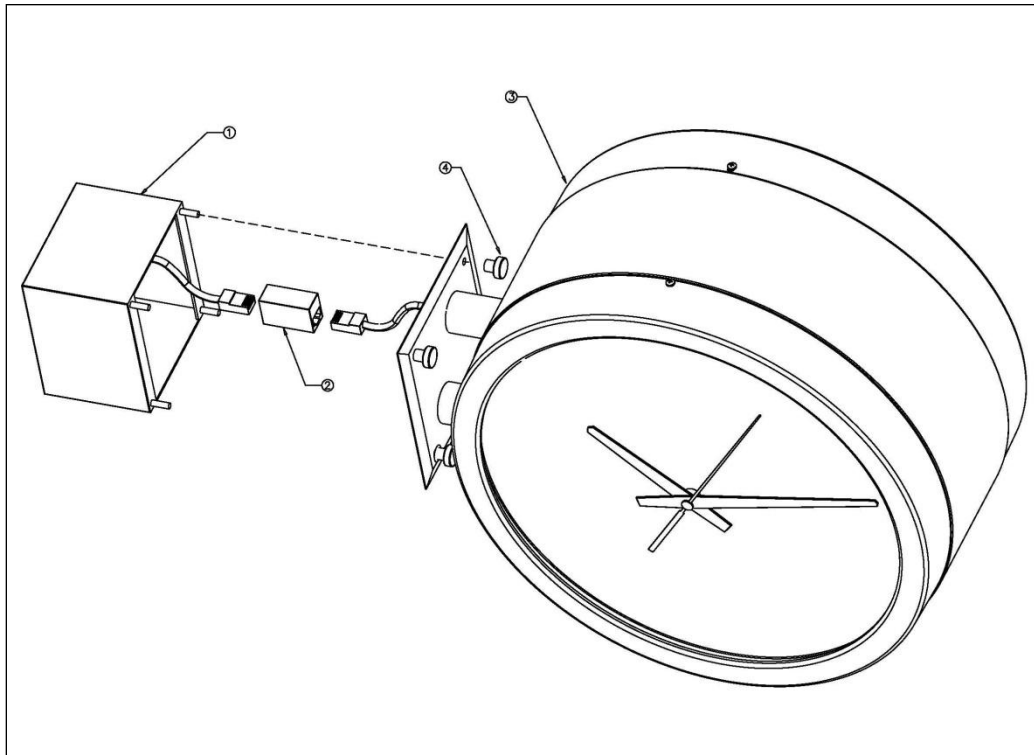

Figure 4: Analog Clock Double Mount Assembly
3. Mount the junction box (item 1 in Figure 4) to the stud or post in accordance with local regulations.
5. Plug the data cable into the connector (item 2 in Figure 4).
6. Mount the clock assembly (item 3 in Figure 4) to the studs on the junction box and secure the unit with the nuts provided (item 4 in Figure 4).